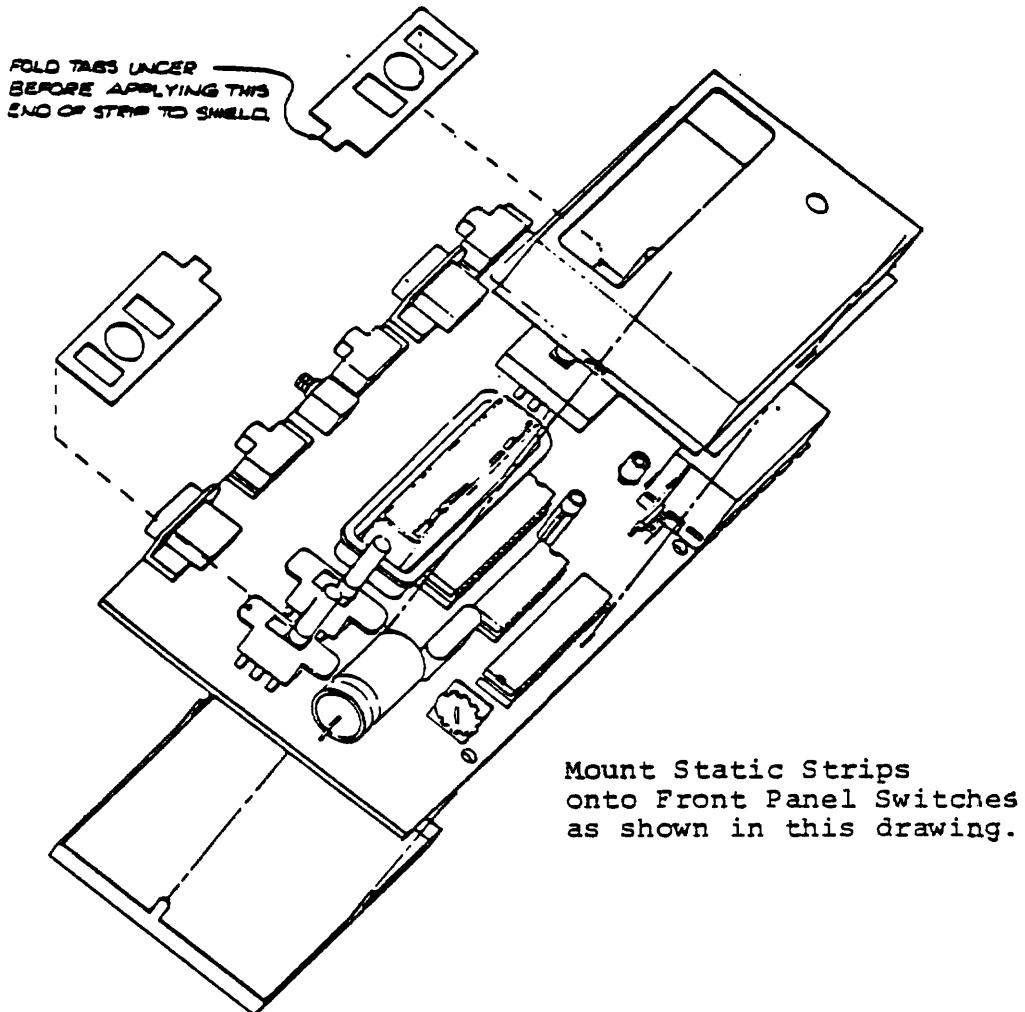

Figure 3-5. 2600A (Rev. 1-13) Static Modifications
- Each 2600A (Revs 1-13) model must have static strips placed on the front panel switches (See Figure 3-5).